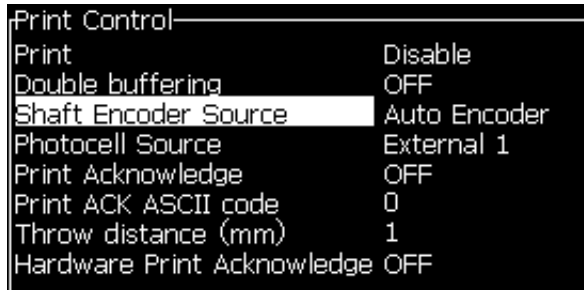

Figure 4-45: Auto Encoder
- 2 Set the *Shaft Encoder Source* to *Auto Encoder* (Figure 4-45).